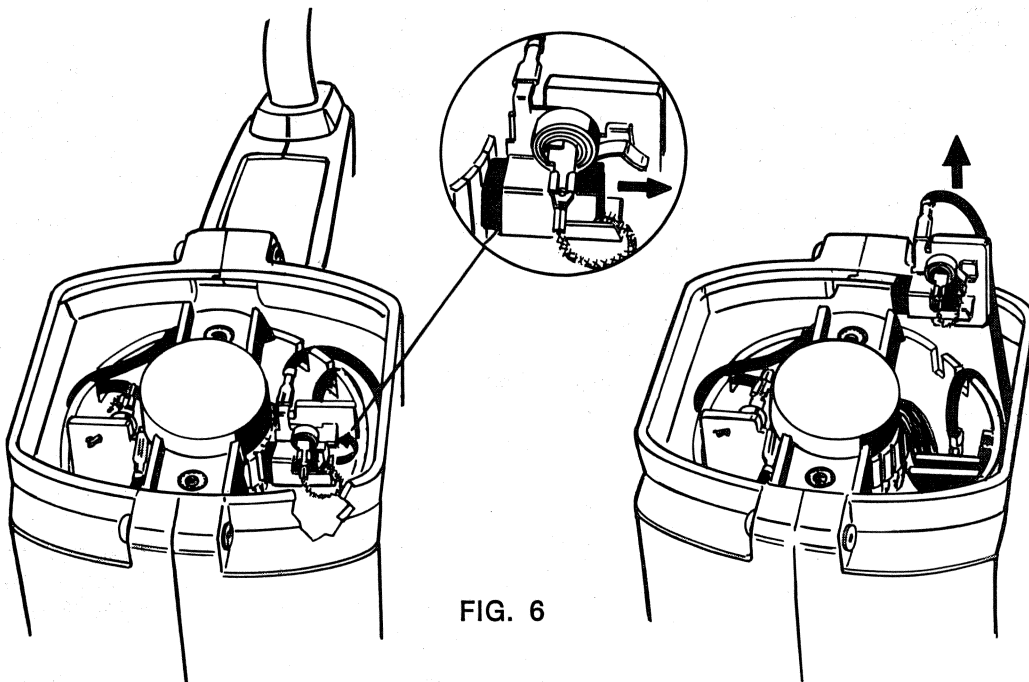

FIG. 6
- c) Lift brush spring off brush and hook spring on brush holder as shown in Figure 6.